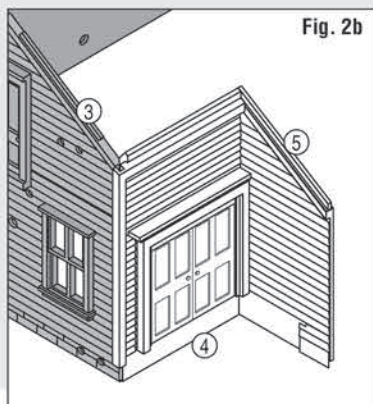

Fig. 2b
- Snap Wall ④ onto Wall ③ and Wall ⑤ onto Wall ④ (**Fig. 2b**).